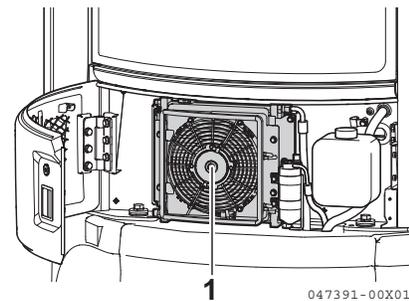

Fig. 8-31
2. If there is any mud or dirt on the condenser (**Fig. 8-31, 1**), wash it off with water.